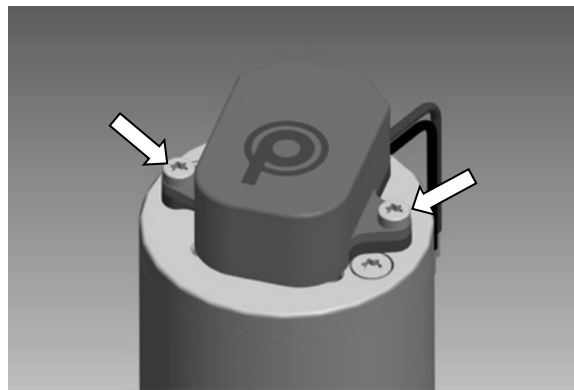

Figure 2
- Using a T-20 Torx Screw Driver, remove the two screws holding the Hood and Base Plate to the motor housing (Figure 2)